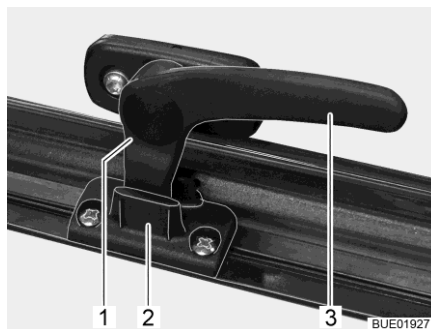

Fig. 16 Catch lever in "continuous ventilation" position
- "Continuous ventilation" (Fig. 16)
- Turn the catch lever (Fig. 16,3) a quarter turn towards the centre of the window.
- Turn the catch lever a quarter turn towards the window frame. The locking catch (Fig. 16,1) has to be moved into the recess of window catch (Fig. 16,2).